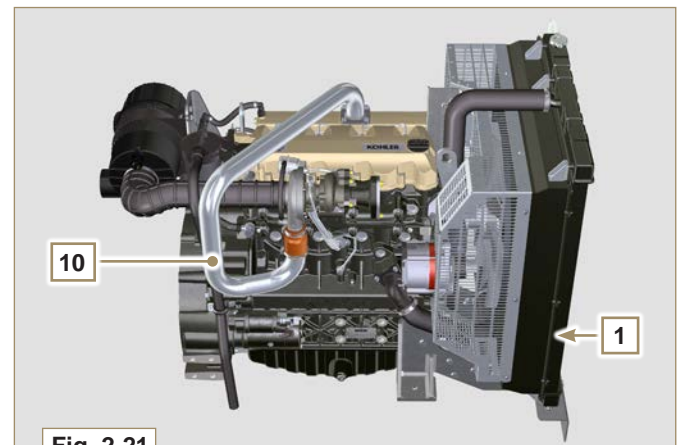

Fig. 2.21
10	Compressed air delivery hose to the intake manifold (Fig. 2.21)
**NOTE:** Nella Fig. 2.21 illustrates the radiator without Intercooler (the differences in POS. 10). Fig. 2.22 illustrates the radiator with Intercooler (the differences in POS. 8-9).